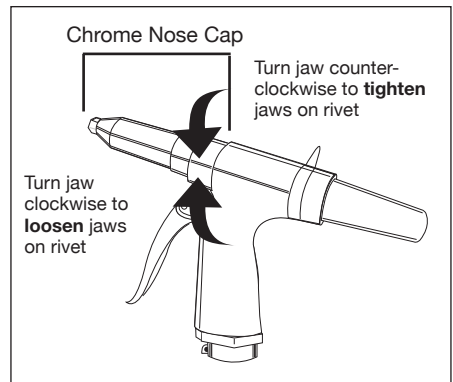

Figure 2
1. Hold rivet gun with nose cap pointing away from self. Remove chrome nose cap (See Figure 2).
3. Turn jaw counter-clockwise making jaws tighten on rivet. Turn clockwise to loosen jaws on rivet (See Figure 2).